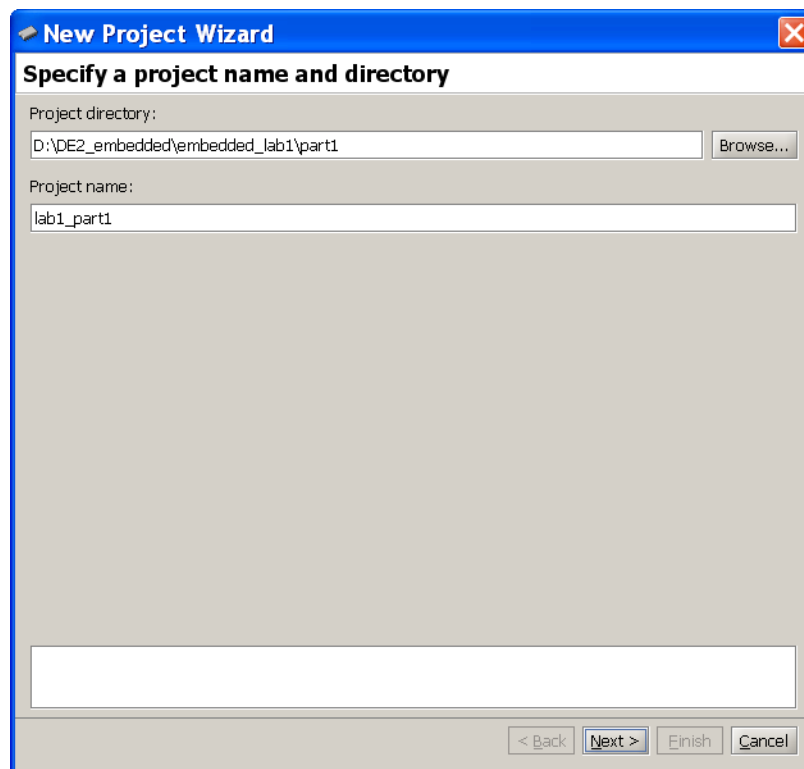
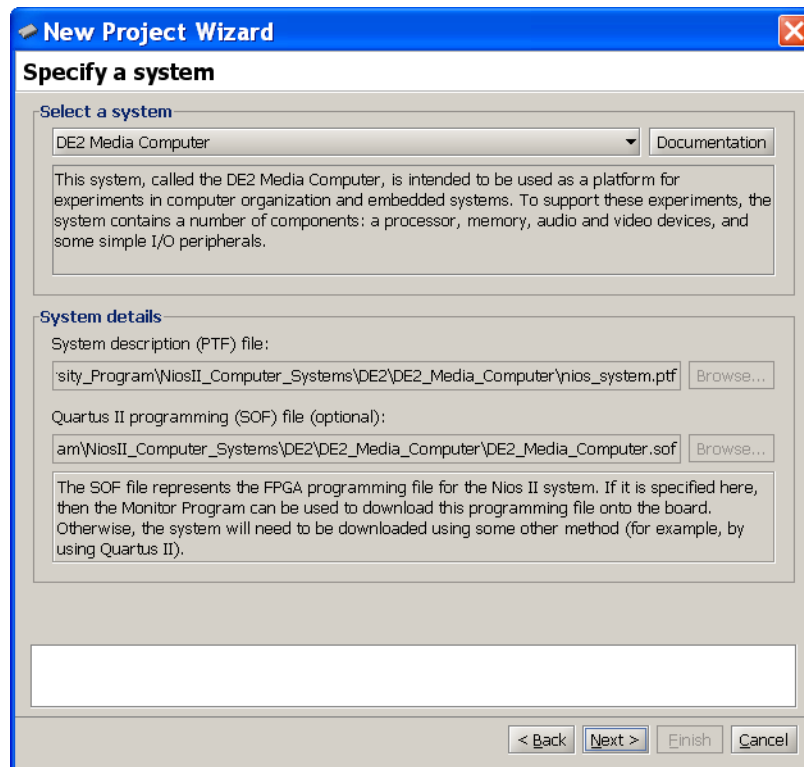

Figure 2. Specify the directory and the name of the project.
Figure 3. Specification of the system.
To run an application program it is necessary to create a new project. Select **File > New Project** to reach the window in Figure 2. Give the project a name and indicate the directory for the project; we have chosen the project name *lab1_part1* in the directory *embedded_lab1_part1*, as indicated in the figure. Click **Next**, to get the window in Figure 3.
5. The Monitor Program will display the disassembled view of the code loaded in the memory, as indicated in Figure 13. Note that the pseudoinstruction **movia** in the original program has been replaced with two machine instructions, **orhi** and **addi**, which load the 32-bit address LIST into register *r4* in two 16-bit parts (because an immediate operand value is restricted to 16 bits). Examine the disassembled code to see the difference in comparison with the original source program. Make sure that you understand the meaning of each instruction. Observe also that your program was loaded into memory locations with the starting address 0. These addresses correspond to the SDRAM memory, which was selected when specifying the system parameters. The DE-series Media Computer has two more memories which are the *on-chip* memory (i.e. the memory on the FPGA chip) and the SRAM chip on the DE-series board. See the document *Media Computer System for Altera DE-series Board* for full information. This document can be accessed by clicking on the Documentation button in Figure 3.